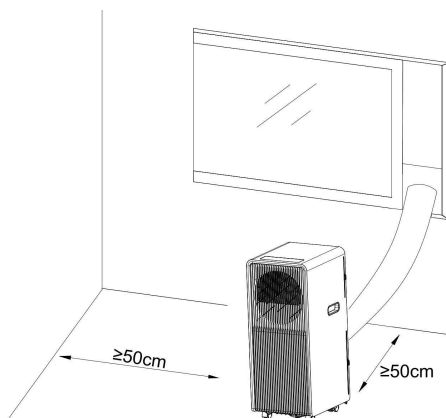
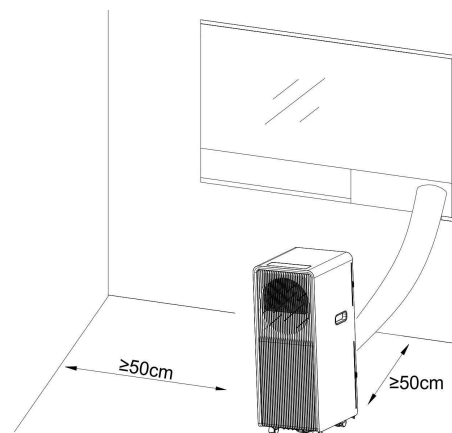

Fig. 2
Fig. 3
- 2) As shown in Fig.2 and Fig.3, install the exhaust hose, and adjust the window position well.